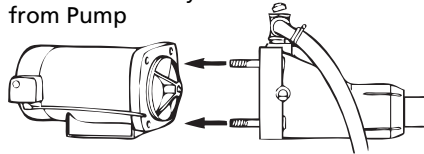

Figure 15 – Pump Disassembly
Pump and piping need not be disconnected to repair or replace motor or seal (See Figure 15, page 14).
5. Remove the motor, seal plate, impeller, diffuser and pad as a unit (See Figure 15).